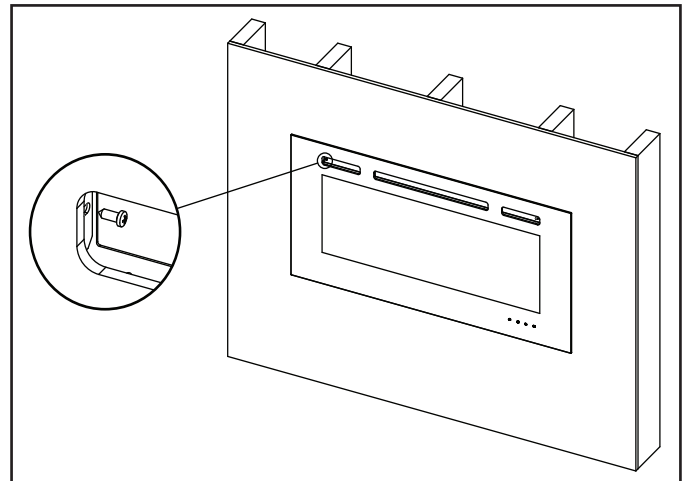

Figure 1. Remove Glass Front
1. Remove the two (2) ST3X8 screws located on the glass panel. See Figure 1.